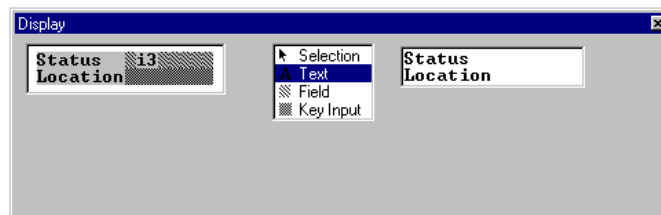

Figure 3-76 “Status” Handler Display - Location Corrected in Display
64. Press <Enter>; the display now shows **Location** on the second line (Figure 3-76).